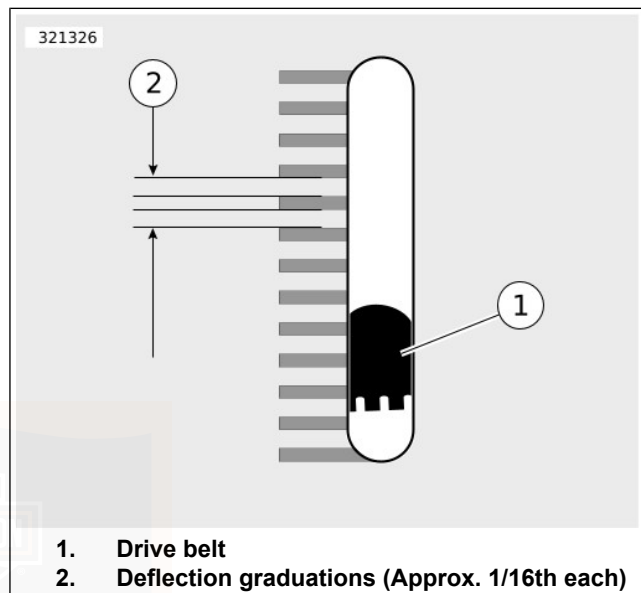

Figure 51. Belt Deflection Window
- a. **Models equipped with belt deflection window:** See Figure 51. Measure belt deflection as viewed through belt deflection viewing window while holding gauge steady. Each deflection graduation is approximately 1.59 mm (1/16 in).